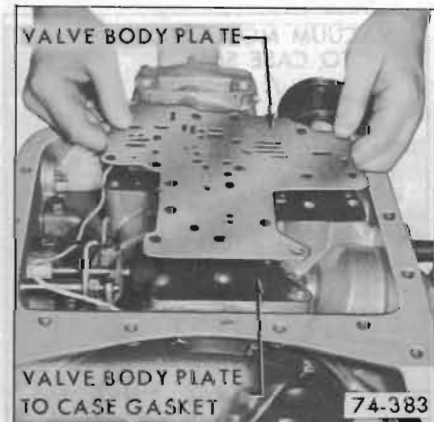

Figure 74-334
1. With transmission in horizontal position, install valve body to plate gasket and plate. See Figure 74-334.